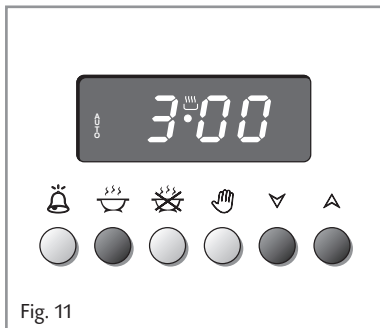

Fig. 11
1. Set the length of the cooking period by pushing the  button and the  button to increase, or  to decrease if you have passed the desired time (fig. 11). The AUTO and the  symbol will illuminate.